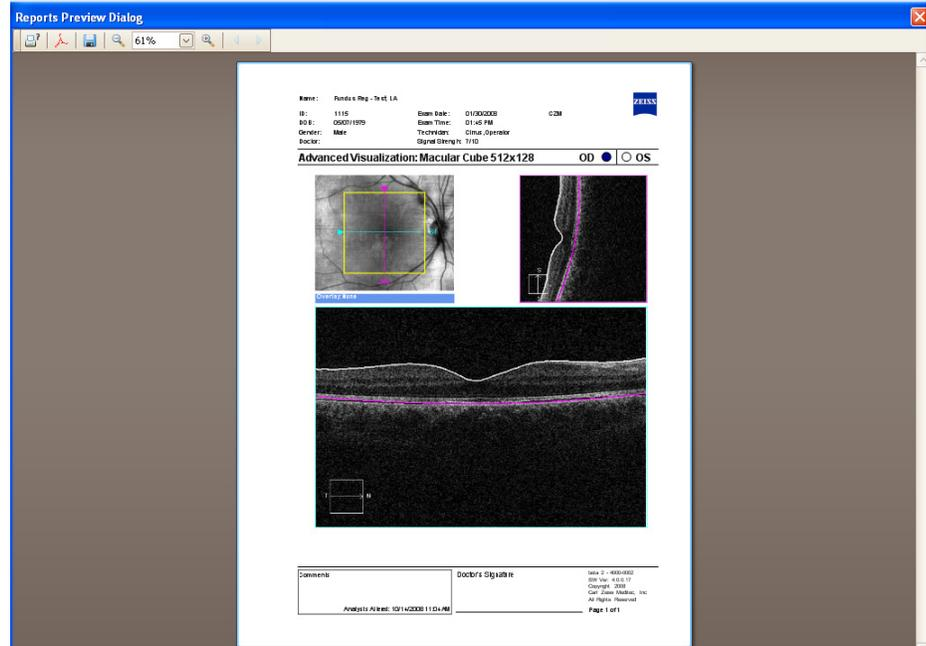

Figure 4-19 Report Preview Dialog
The stock print mode provides a standard print layout for each kind of analysis. To make a stock print, click the **Print** button at upper right to generate a report based on what is currently on screen. (The current cross-sections and/or surface maps will appear in the report.) The system presents a print preview, as shown in Figure 4-19, of the current analysis report.
- **Make Report:** Click **Make Report** to generate the report using the currently selected images. The Report Preview Dialog opens (see Figure 4-19 on page 4-31). You will then have the further options to print it out or save it as a PDF or TIFF or any of the other electronic formats listed.
(5) Analyze Scans: RNFL and Optic Nerve